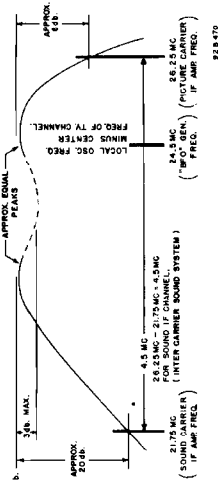

Fig. 12. I-F amplifier response.
5. Check the I-F amplifier frequency response by tuning the signal generator from 21 mc through 26.25 mc and observing the change in d-c voltage at the electronic voltmeter. If the signal generator output is set for an electronic voltmeter reading of 1.5 volts at the peak I-F amplifier response, the d-c voltage should not drop below one volt between the two peaks normally obtained with this I-F amplifier. If the response is unsatisfactory, repeat steps 3 and 4 or try slight modifications of the recommended settings to obtain the desired response. Avoid retoning the coils with the iron core at the bottom end of the coil form. (Adjustment screw near limit of its travel.) Check the two carrier I-F responses, 21.75 mc and 26.25 mc. The 21.75 mc response will be approximately 20 db below the peak response (Approx. 0.15 volt) and the 26.25 mc response will fall approximately 8 db. below the peak (Approx. 0.4 volt). Refer to Fig. 12.